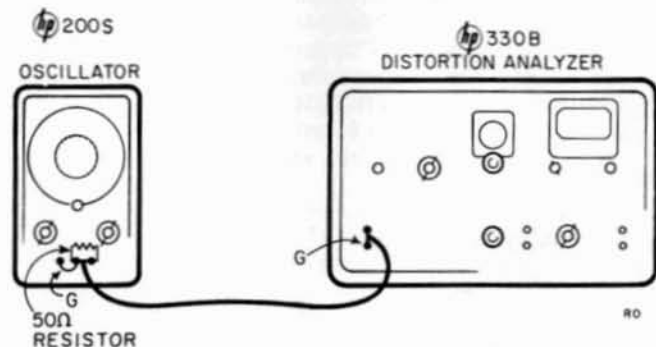

Figure 4-4. Distortion Test Setup
- 1) Connect the 200S to a 330B Distortion Analyzer as shown in figure 4-4.